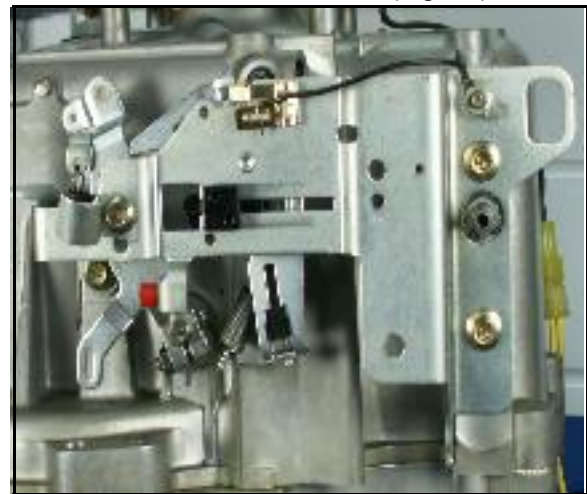

Fig. 39
2. Install the control bracket (Fig. 39).